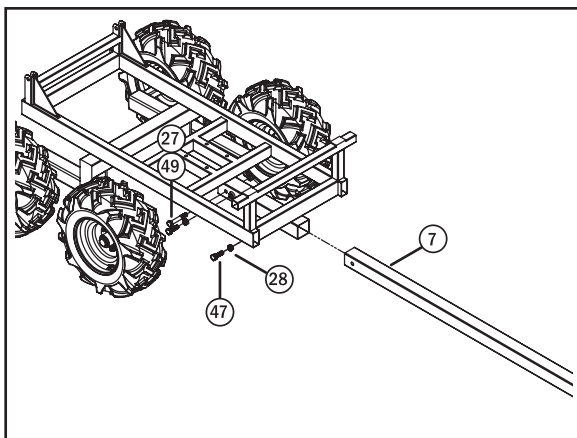

Fig. 5
Step 9: Install the Tow Bar. Insert the Tow Bar (7) into the Main Frame (1) as shown in Fig. 5. Align the hole at the end of the Tow Bar with the hole in the frame, then use the M16 Bolt (49) and M16 Locking Nut (27) to secure it in place. Use a torque wrench and tighten this bolt and nut between 125 and 135 ft-lbs (170 and 185 Nm). Place an M16 Nut (28) onto an M16 Bolt (47) and install the bolts into the two threaded holes on the Main Frame. Tighten these between 75 and 80 ft-lbs, then tighten the nuts to prevent the bolts from loosening.